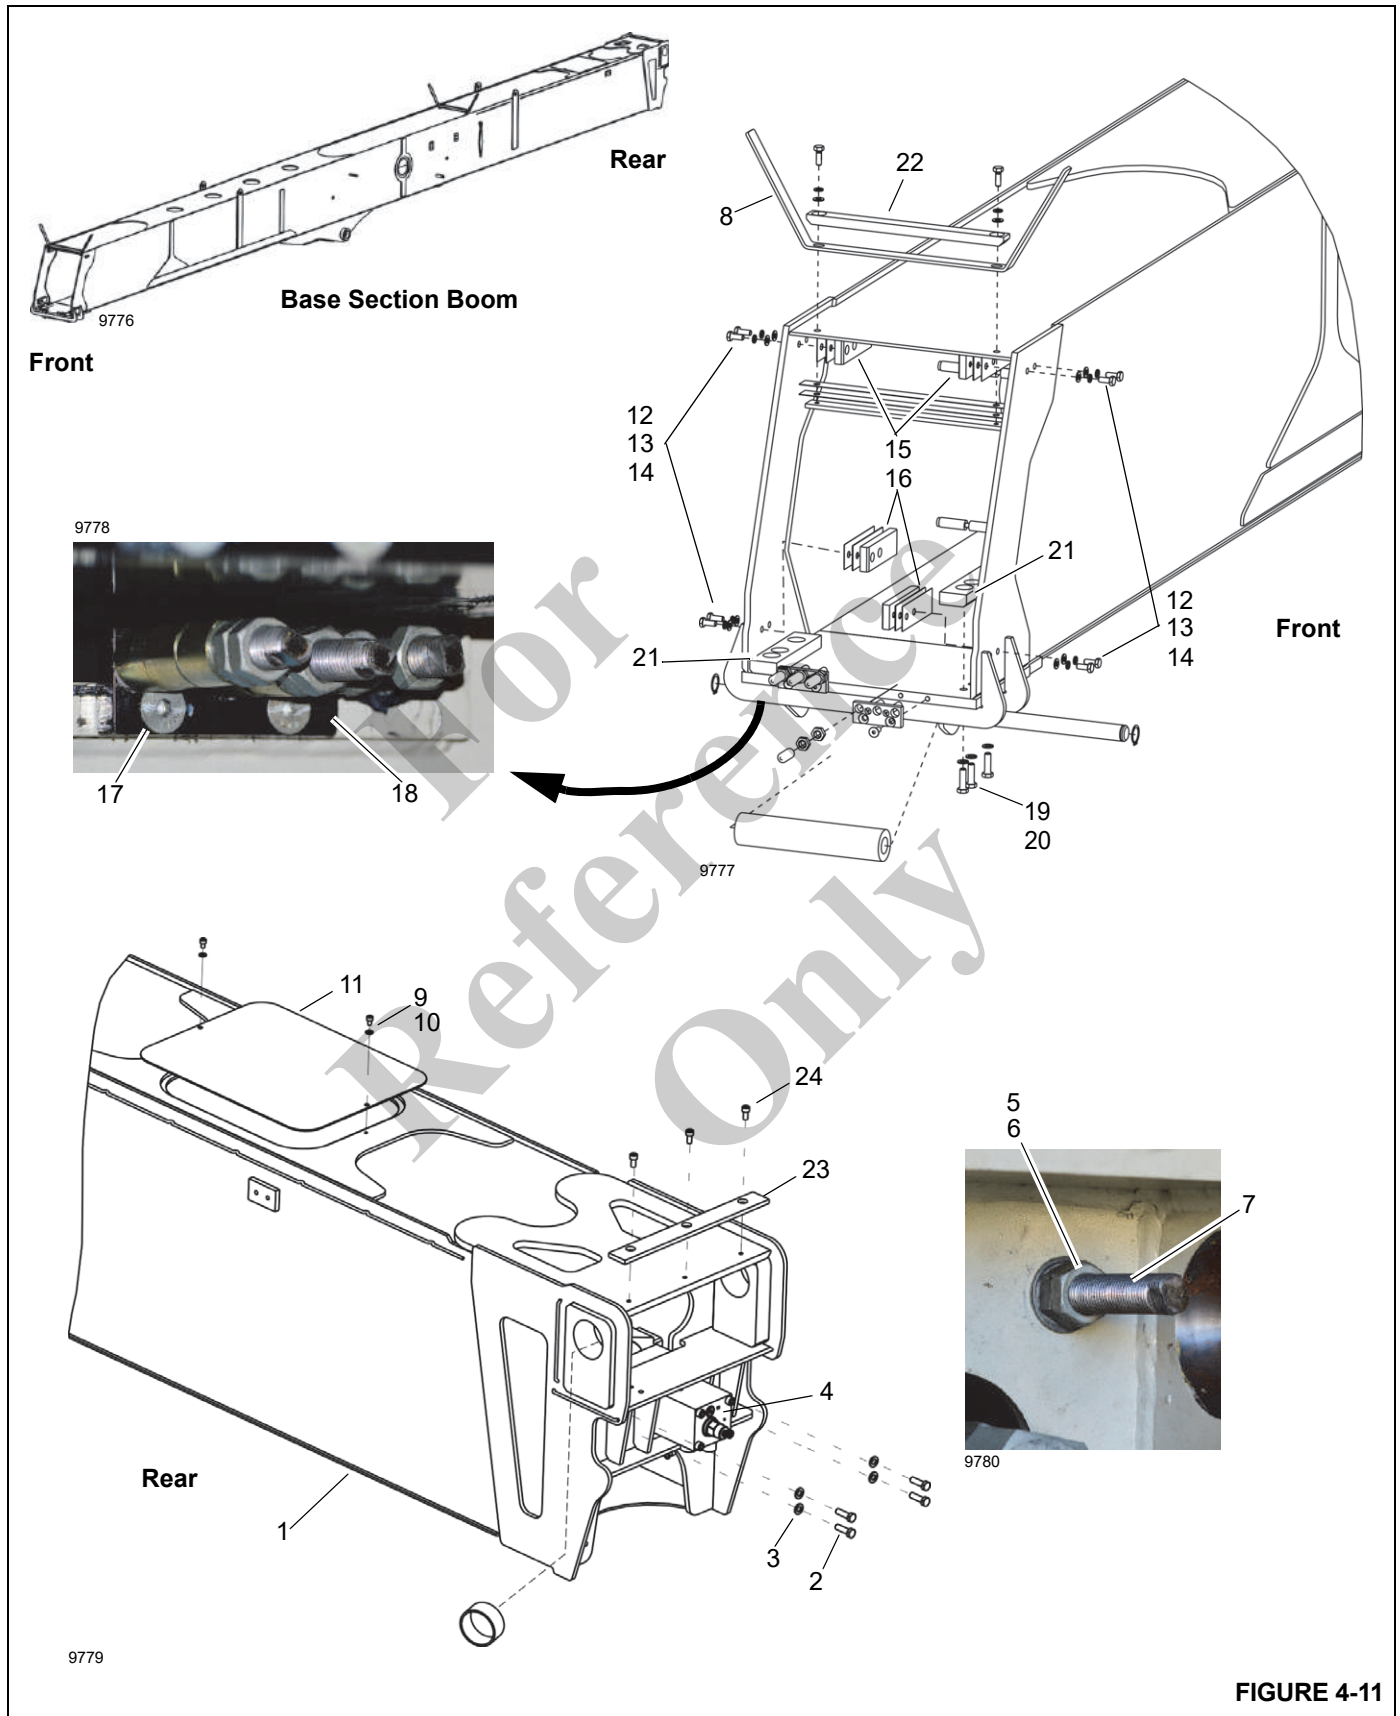

FIGURE 4-11
Steps 1 through 3 apply to a boom that is to be disassembled with the Base section (1, Figure 4-11) and jib (if equipped) left on crane.
Table 4-1 Base Section Boom Figure 4-11 Item List
5. Remove capscrews (2, Figure 4-11) and washers (3) that attach the telescope extend cylinder (4) to the base section boom (1).
6. Remove nuts (5) and washers (6) from synchronizing cables (7) at the rear of the Base section (1). Mark the
11. Remove and tag capscrews (12, Figure 4-11), washers (13), lockwashers (14), shims (15), and wear pads (16) from the sides of Base section boom (1).
12. Remove four capscrews (17) that retain the 3/2/1 retract cable anchors (18) to the bottom tip of the Base section boom (1).
13. Remove and tag capscrews (19), washers (20), and wear pads (21) from bottom tip of Base section boom. Pull the retract cable anchors (18) out and keep retract cables taut while pulling Tele 1 (with Tele 2, Tele 3, Tele 4) section out of Base section (1). Support the base end of the Tele 1 section as it exits the Base section boom.